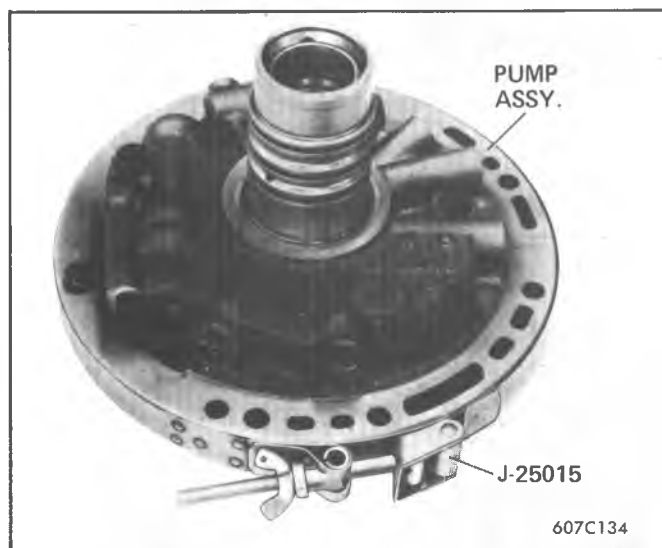

Figure 7A1-154 Aligning Pump Cover and Pump Body
23. Install pump assembly and finger start pump to case bolts and new washers, except one bolt hole (Figure 7A1-163) which will be used to make the front unit end play check.